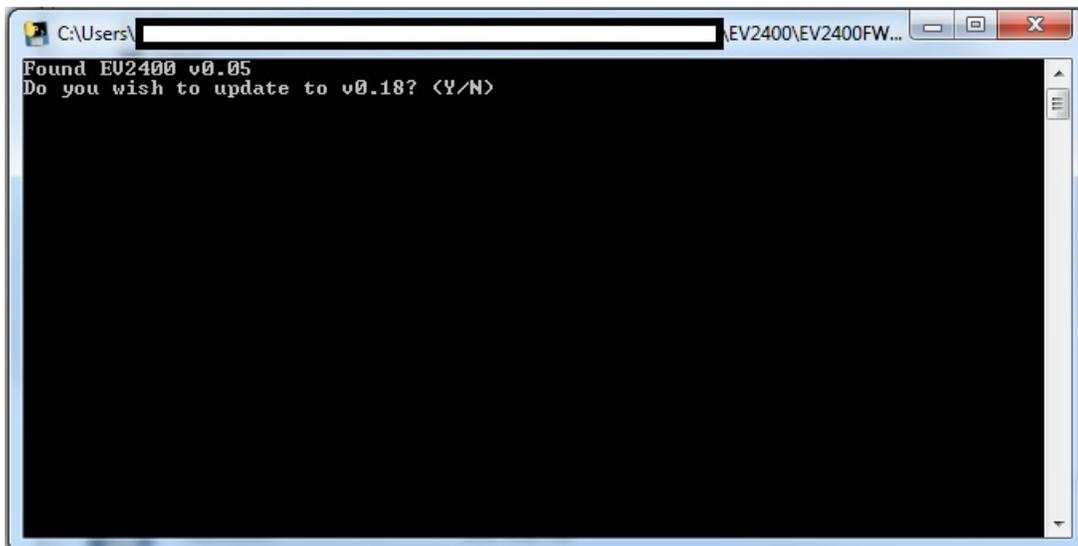

Figure 2. Firmware Update Prompt Screen
8. The upgrader tool should detect the connected EV2400, display the current firmware version, and prompt the user to continue to update the EV2400 firmware. See Figure 2.